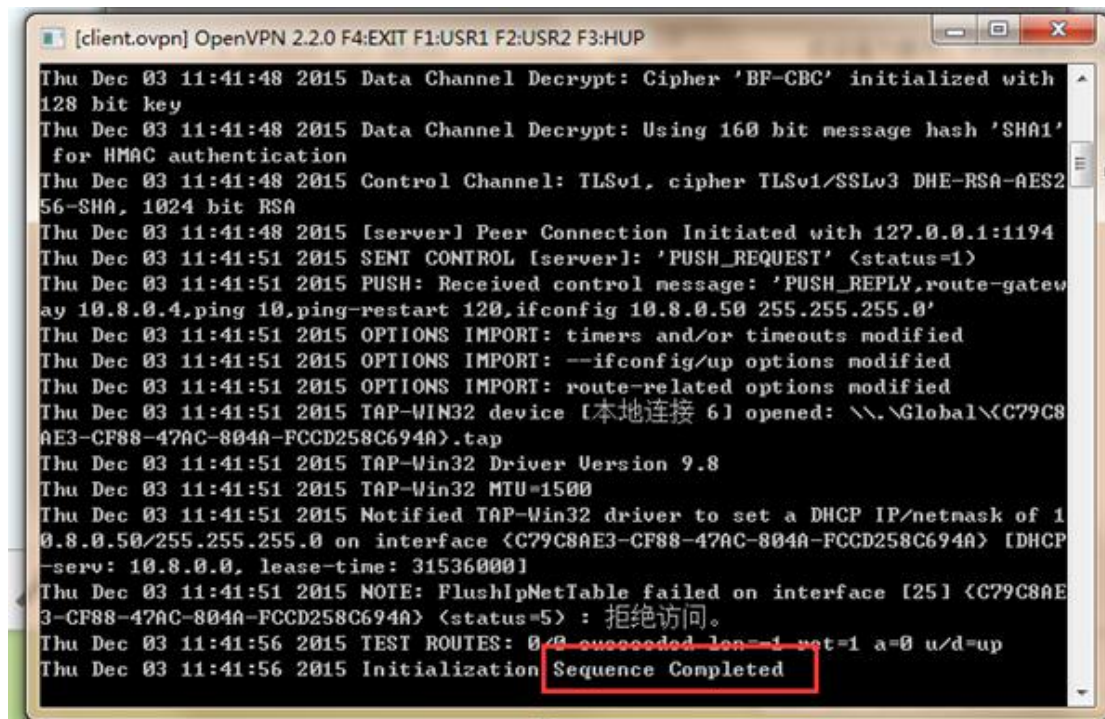

Fig. 4.9-19 Complete the connection successfully
(7) When the "Sequence Completed" appears, it means the connection is successful, as shown in Fig. 4.9-19. Then you can do the transmission.